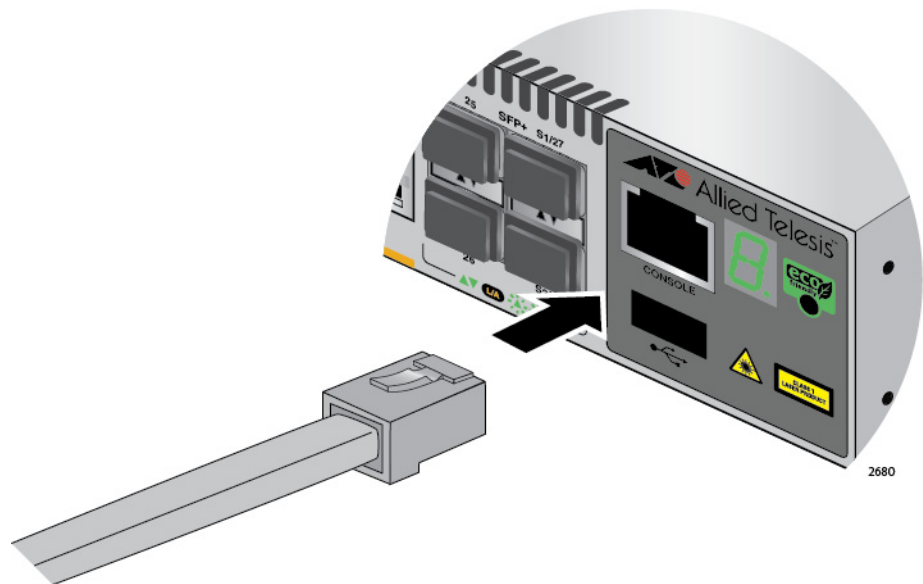

Figure 41. Connecting the Management Cable to the Console Port
1. Connect the RJ-45 connector on the management cable to the Console port on the front panel of the switch, as shown in Figure 41.